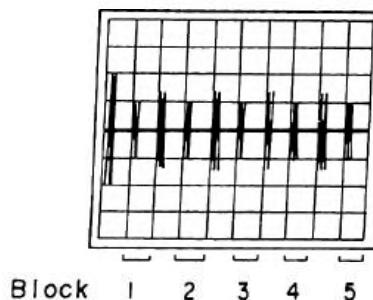

Fig. 3
- 4) Set the side selector of the exerciser to S0 and set the oscilloscope channel to S0. Set TIME/DIV at 2 msec, and view servo pattern waveform as shown in Fig. 3.
- (2) Step 40 tracks toward outside from the track delivering the servo pattern in Fig. 3, and check the output of CH1 on the oscilloscope.
- (3) At this time, make sure the output is 4.5 V DC or more.
- (4) Then step 2 tracks inside, and similarly make sure the oscilloscope output is 0.5 V DC or less.
- (5) If any one of the checking items above is defective, adjust the T00 sensor position as follows.
- c) Repeat steps (2) to (4) above.